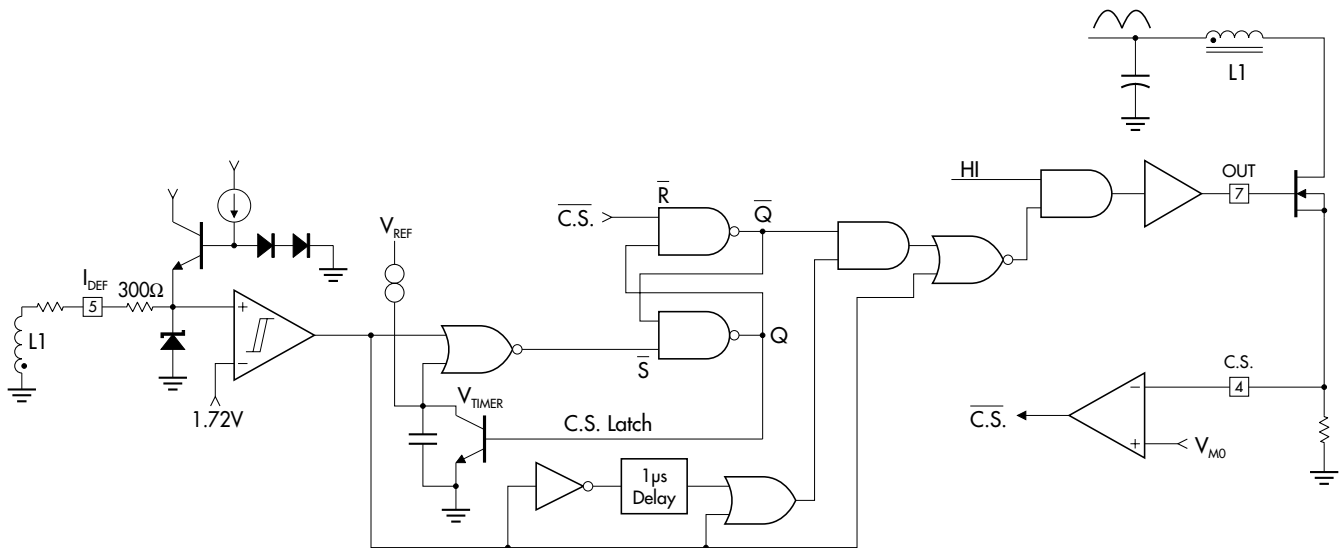

FIGURE 30 — START-UP TIMER & CURRENT DETECT LOGIC CIRCUITRY
The function of "current detect logic" is to sense the operating state of the boost inductor and to enable the output driver accordingly. To achieve this, the downward slope of the inductor current is indirectly detected by monitoring the voltage across a separate winding and connecting it to the detector input " I_{DET} " pin. Once the inductor current reaches ground level, the voltage across the winding reverses polarity and changes the " I_{DET} " input and the comparator output to the low state (See Figure 30). When comparator changes state, it sets the latch and turns on the output driver for a period of 1μs (typ.) regardless of any changes in the latch output (\bar{Q}) within this period. This ensures that if the C.S. comparator changes state due to any turn-on spike, the driver output remains on and does not turn off prematurely.
A start-up timer circuit eliminates the need for an external oscillator when used in stand alone applications. The timer, as shown in Figure 30, provides a means to automatically start the pre converter if the latch output \bar{Q} comes up in a wrong (HI) state. The timer capacitor ramps up and resets the latch to a low state, turning the output driver on.